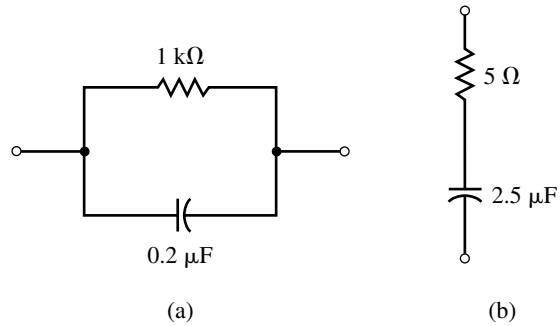

FIGURE 21–24
Consider the networks of Figure 21–24:
- Determine the series equivalent of the network in Figure 21–24(a) and the parallel equivalent of the network in Figure 21–24(b).